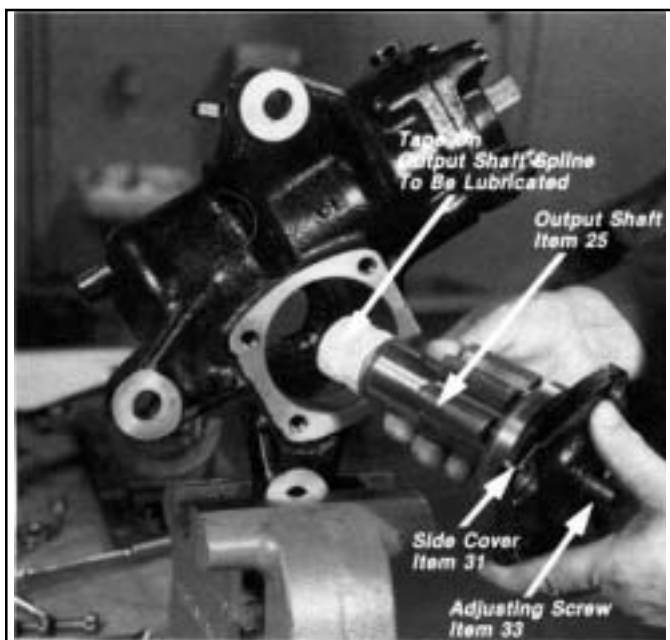

FIGURE 54 - INSTALLING ASSEMBLED OUTPUT & SIDE COVER
31. Lightly lubricate the seals(29) contained in both the housing (22) and side cover(31) with lithium grease. Lubricate the sealing surface of the output shaft (25) on the adjusting screw end only. Using a 7mm socket wrench install the assembled side cover (31) on the output shaft adjuster screw (33) and screw it on as far as it will go, then back it off 1/8 of a turn. Figure 54
32. Prior to inserting the assembled side cover and output shaft (25) into the housing (22), wrap a single layer of masking tape around the splines to protect the housing seal (29). Lubricate the exterior of the tape with a lithium grease and insert the shaft and side cover assembly into the housing with a twisting motion. Remove the masking tape from the output shaft splines. Figure 54